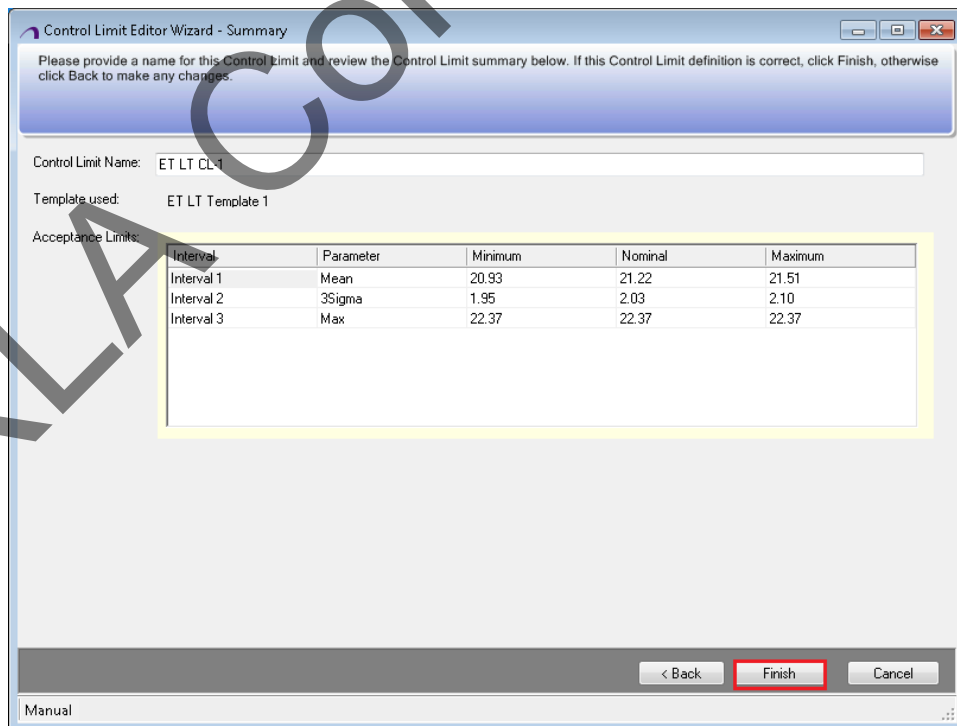

Figure 6-9 Control Limit Editor Wizard – Summary
- You can see the **Control Limit Editor Wizard - Summary** window opens, as shown in Figure 6-9.